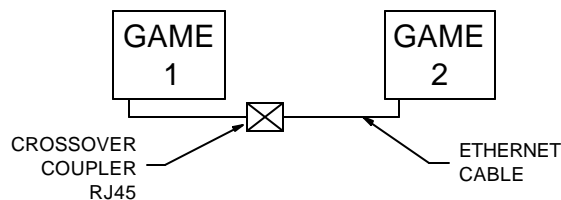
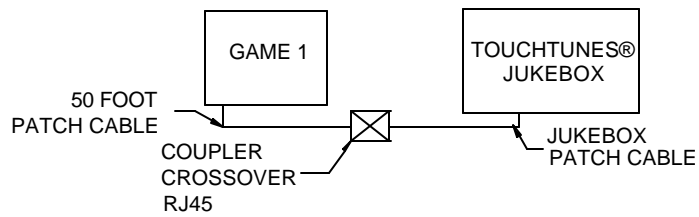

FIGURE 16 – LINKING TWO MEGATOUCH GAMES
FIGURE 18 - LINKING A MEGATOUGH GAME AND A JUKEBOX
4. Plug the free ends of both the Ethernet cables into the coupler crossover. See Figure 16. If you are linking a game to a TouchTunes® jukebox, plug the free end of the jukebox patch cable into the coupler crossover. See Figure 18.